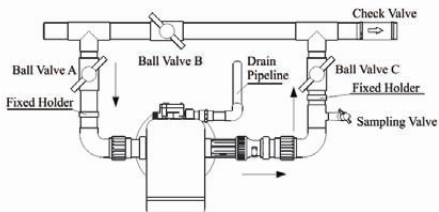

Figure 1-3
④Pipeline connection
a.As figure 1-3 shows, install ball valve A, B, C, sampling valve, check valve in inlet, outlet, inlet pipeline and outlet pipeline.
As figure 1-3 shows, glue the drain outlet with UPVC drain pipeline, put drain outlet pipe to sewer as showed in the Figure 1-4.